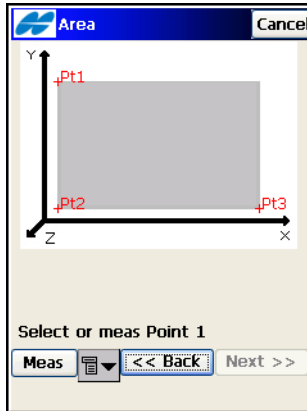

Figure 8-69. Select Area
2. Select the Scanning Area on the *Area* screen (Figure 8-69 on page 8-59). The starting and ending points for the scanning area
can be selected from the Point List or Map, or measured (Figure 8-69). When finished, click **Next**.